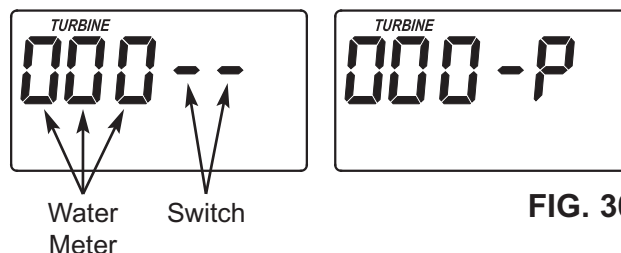

FIG. 30
3. The letter "P" and a dash (or dashes) indicate POSITION switch operation (See Figure 30). If the letter appears, the switch is closed. If the dash shows, the switch is open.